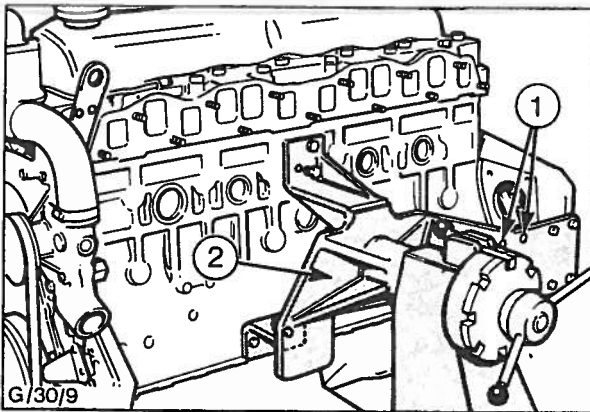

Fig. 17 - Engine Mounted on Stand (200B)
7. Fit engine mounting bracket 21 535 to the engine as shown in Fig. 17. Lift engine with a suitable hoist, using the cylinder head lifting brackets and mount the engine on the stand (200B) as illustrated.